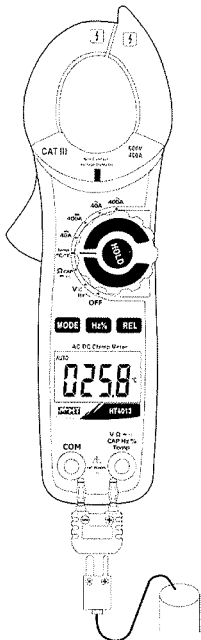

Fig. 8: Use of the clamp for temperature measurement
3. Insert the K wire probe provided into input terminal **VΩ** and **Temp** and **COM** by means of the relevant adapter, respecting the polarity indicated in Fig. 8. The display shows the value of temperature.